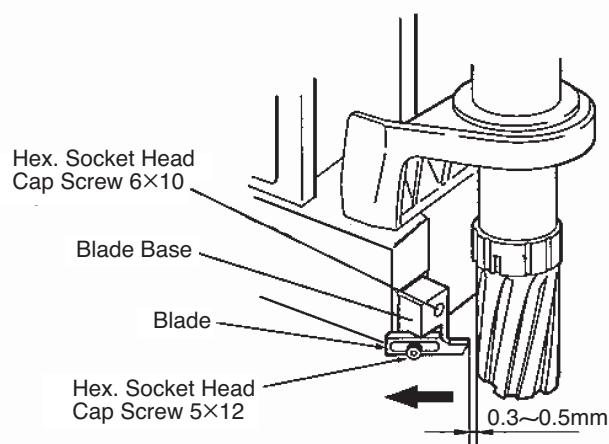

Fig. 37
(1) Mount Blade Base. (Fig.37)
(2) Mount cutter.